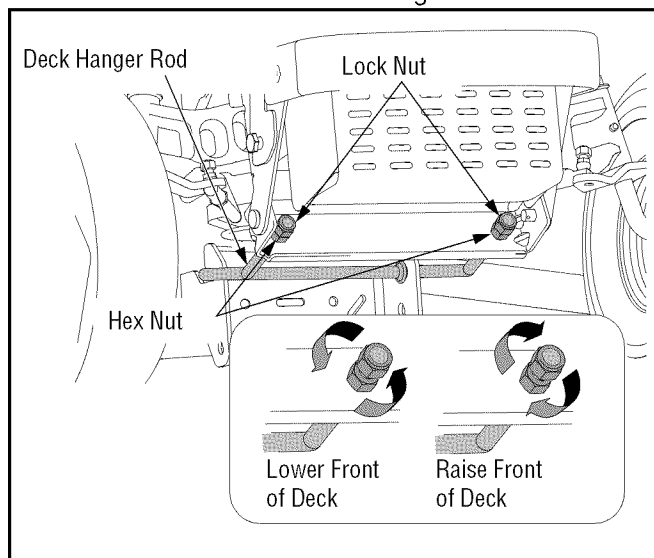

Figure 9
- From the front of the tractor, loosen the hex lock nut on each end of the deck hanger rod, and turn away from the inner hex nuts. See Figure 9.
- Tighten the inner hex nuts front against the front hanger bracket to raise the front of the deck; loosen the hex nuts to lower the front of the deck. See Figure 9.